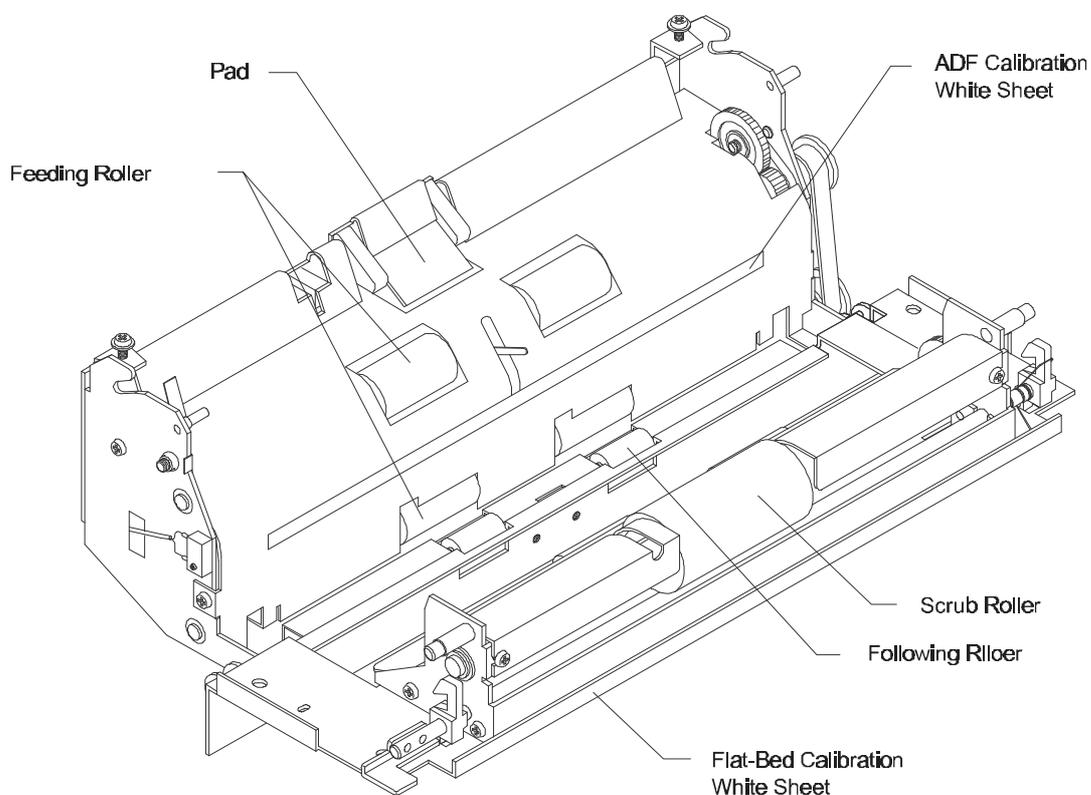

Figure 3-10
2. Figure 3.10 shows the locations of pad, scrub roller, feeding rollers and follow rollers, and ADF calibration white sheet.